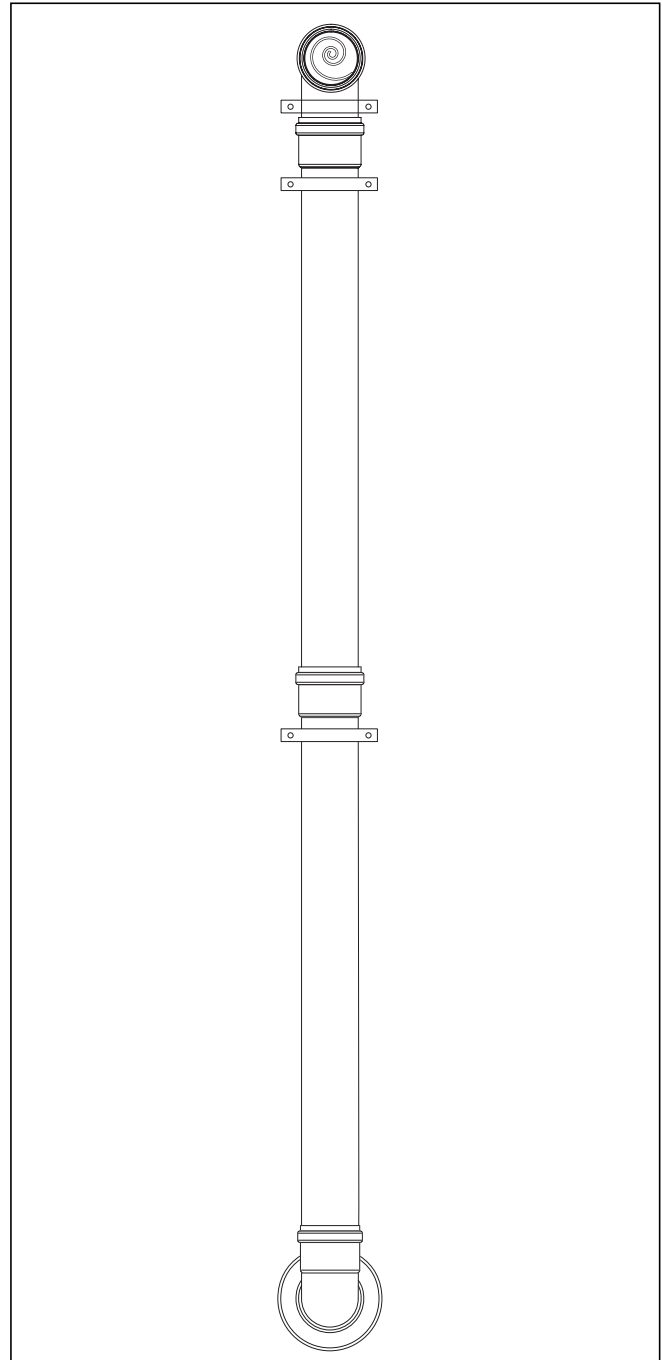

Fig. 2.30 Installation of basic kit showing position of support clips
- Fit the pipes and bends, working from the variable terminal to the selected location for the flue exit using support clips supplied fig. 2.30, 2.31, 2.32 or 2.33.